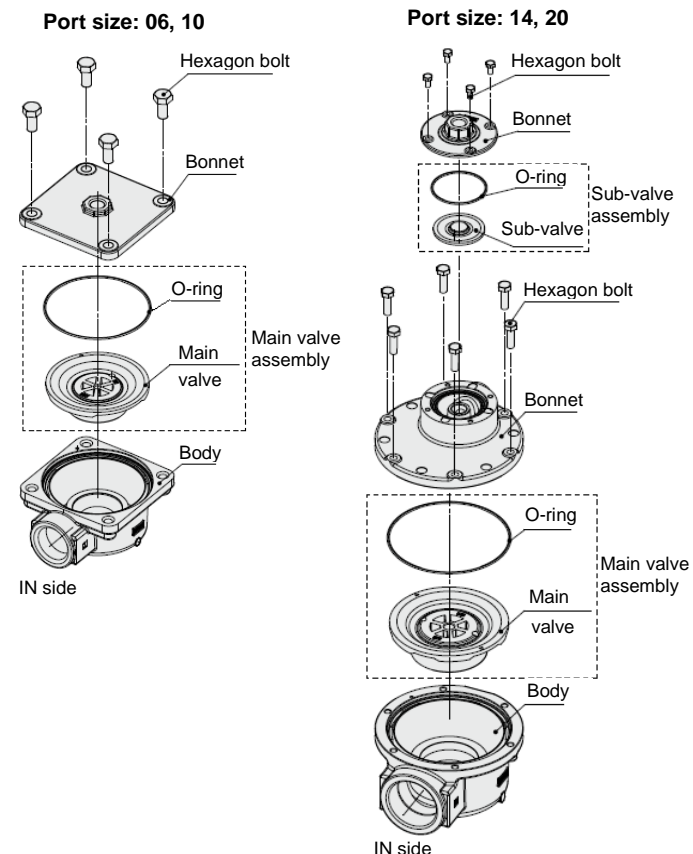

Fig.6
- Loosen the hexagon bolts and remove the bonnet, O-ring and main valve (sub-valve). See Fig.6.
- Assemble the bonnet onto the body (refer to Fig.6).